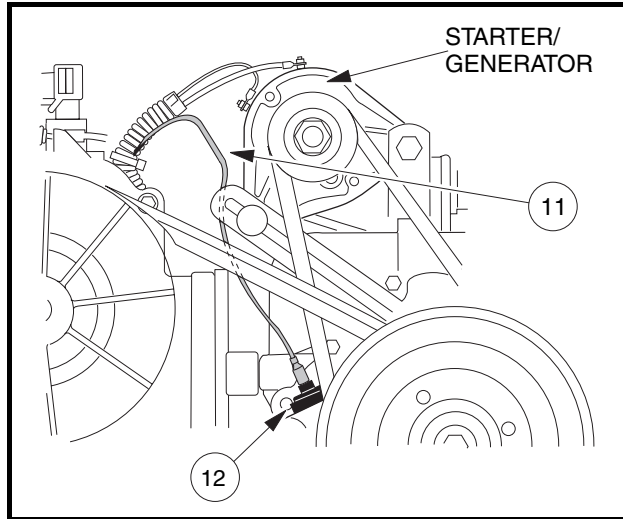

Figure 13-3 Oil Level Sensor Wire
1. Remove yellow jumper wire (11) from cord connector (12) (Figure 13-3, Page 13-5).
5. Connect the yellow jumper wire (11) to the cord connector (12) (**Figure 13-3, Page 13-5**).